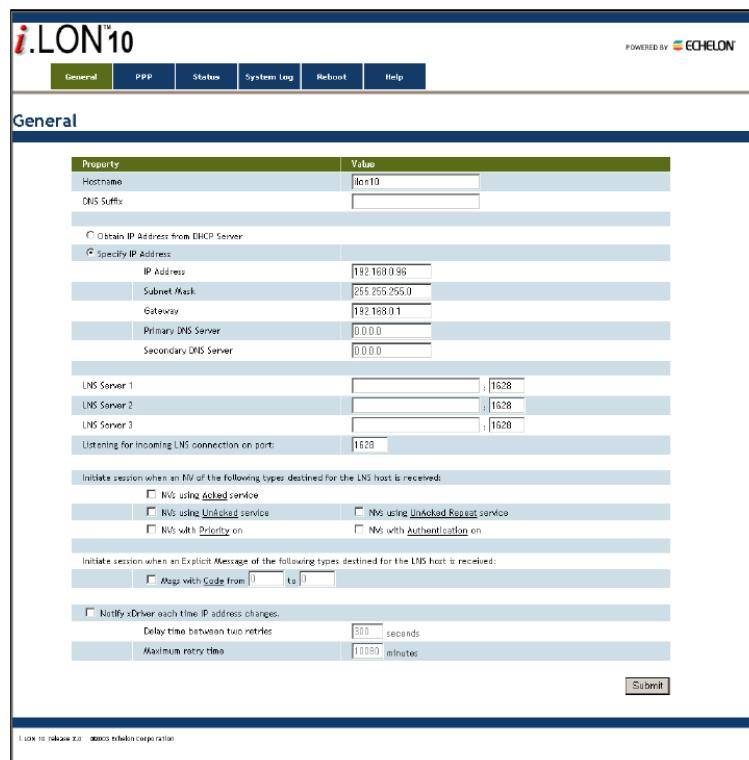

Figure 19: *i*.LON 10 Properties Screen — General Tab
5. Select the **General** tab from the menu bar of the *i*.LON 10 Ethernet Adapter properties screen (Figure 19).